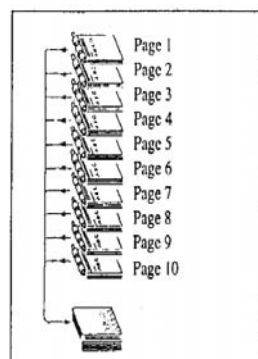

图 8
(2) Load paper onto the paper feed table with the printed side of paper facing upward (see Figure 8)